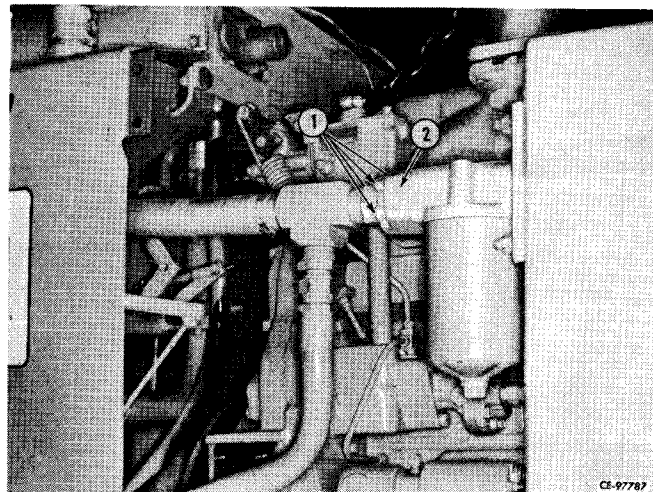

Figure 2-16
To allow engine removal, disconnect hydraulic return line from hydraulic filter housing (2, Fig. 2-16) by removing allen head cap screws (1).
Position hydraulic reservoir on its mountings and install and tighten cap screws, lock washers and nuts. Check condition of "O" ring inside groove in hydraulic filter housing (2, Fig. 2-16). Install and tighten allen head cap screws (1).